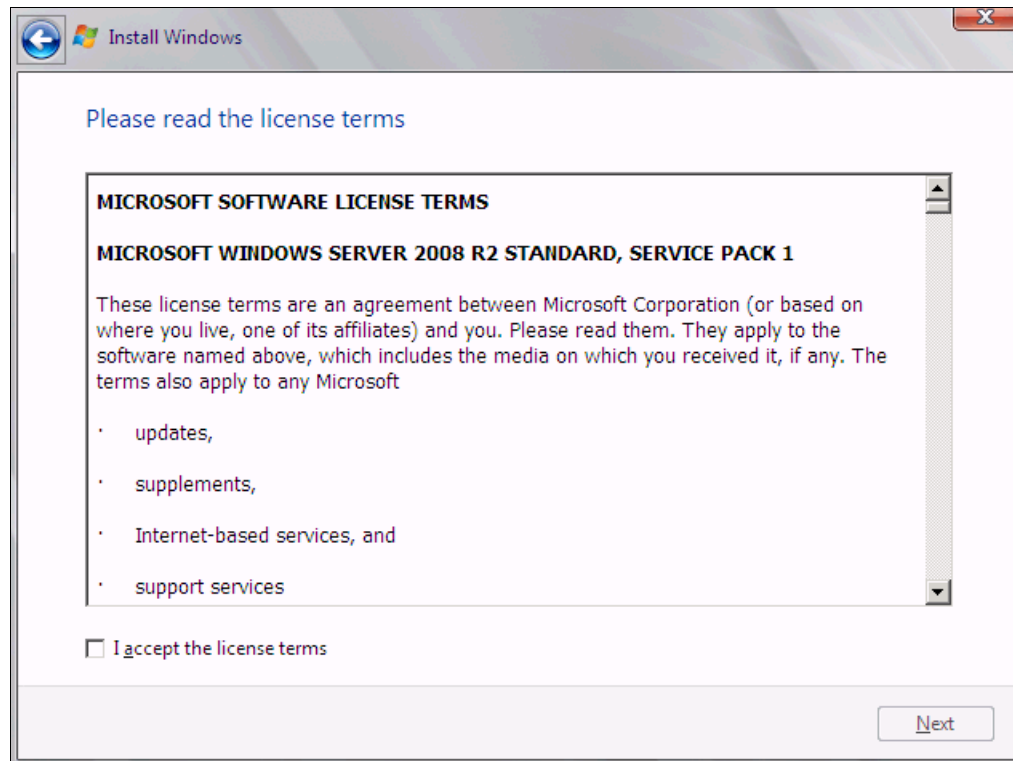

Figure 9-130 License agreement window
10. Read the license agreement (Figure 9-130), click **I accept the license terms**, and click **Next**.